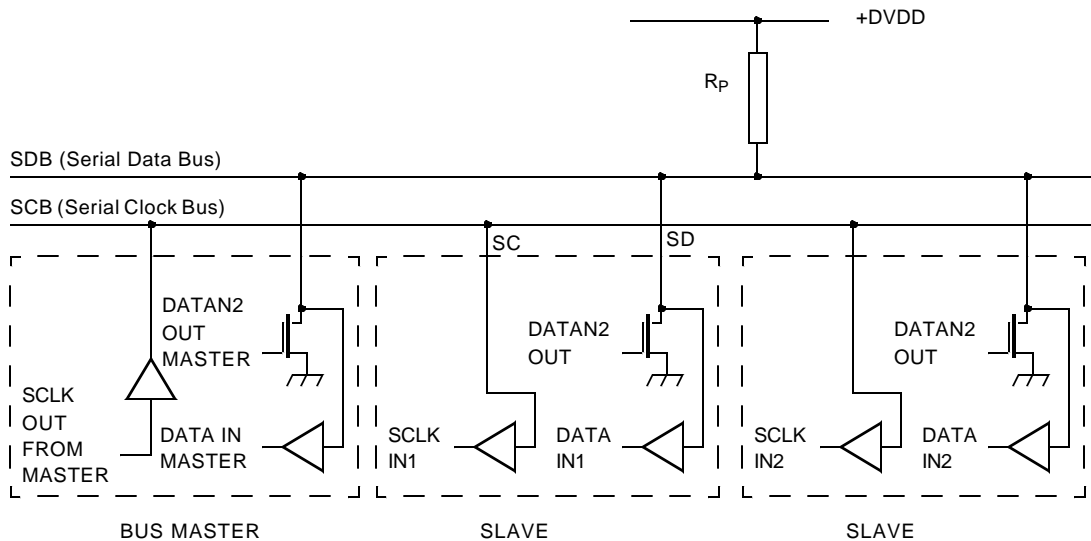

Figure 7: Connection of Devices to the Bus
The CH7011 contains a standard I²C control port, through which the control registers can be written and read. This port is comprised of a two-wire serial interface, pins SD (bidirectional) and SC, which can be connected directly to the SDB and SCB buses as shown in **Figure 7**.
The Serial Clock line (SC) is input only and is driven by the output buffer of the master device (also shown in **Figure 7**). The CH7011 acts as a slave, and generation of clock signals on the bus is always the responsibility of the master device. When the bus is free, both lines are HIGH. The output stages of devices connected to the bus must have an open-drain or open-collector to perform the wired-AND function. Data on the bus can be transferred up to 400 kbit/s.
The electrical specifications of the bus devices' inputs and outputs and the characteristics of the bus lines connected to them are shown in **Figure 7**. A pull-up resistor (R_p) must be connected to a $3.3V \pm 10\%$ supply. The CH7011 is a device with input levels related to DVDD.